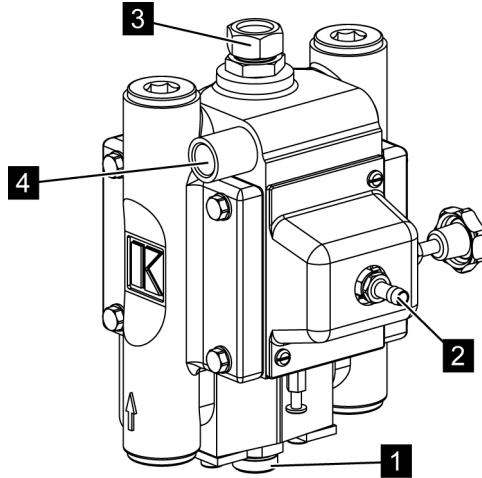

Fig. 6: Connection
1. ➔ Connect the material intake hose to the material intake connection (Fig. 6/1).
2. ➔ Connect the material pressure hose to the material pressure connection (material outlet) (Fig. 6/4).
3. ➔ If necessary, connect the surge tank to the connection (Fig. 6/3).
4. ➔ Connect the compressed air supply to the compressed air connection (Fig. 6/2).